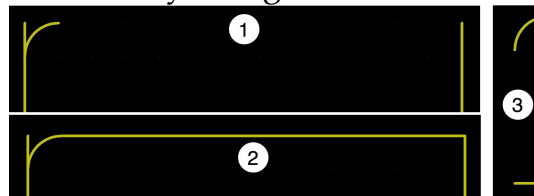
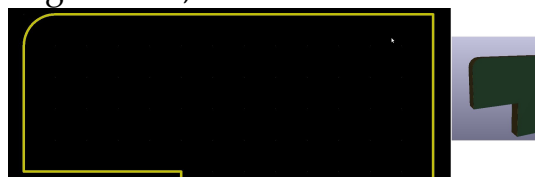

Figure 33.5: Delete and replace the lines, leaving the rounded corner in place.
Figure 33.6: The top left corner is now rounded.
The next step is to remove the lines that create the 90-degree corner. This process is described visually in Figure 33.5.
Refer to Figure 33.5. Start with the horizontal line. Place your mouse over it and type the Del key to remove the line (1). Use the line tool to restore the horizontal line, but this time start it from the top-right corner to the edge of the arc (2). With the grid size at 1.27 mm, it should not be a problem creating a perfectly closed outline. If the outline is not closed, KiCad will show a warning message when you attempt to use the 3D Viewer. Continue with deleting the vertical line (3). Restore this line, and you will end up with an outline like the one in Figure 33.6, with a rounded corner.